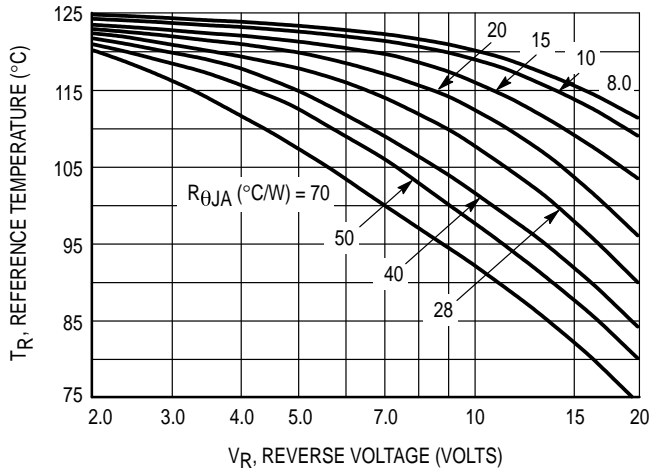

Figure 1. Maximum Reference Temperature
Figures 1, 2, and 3 permit easier use of equation (1) by taking reverse power dissipation and thermal runaway into consideration. The figures solve for a reference temperature as determined by equation (2).
Inspection of equations (2) and (3) reveals that T_R is the ambient temperature at which thermal runaway occurs or where T_J = 125°C, when forward power is zero. The transition from one boundary condition to the other is evident on the curves of Figures 1, 2, and 3 as a difference in the rate of change of the slope in the vicinity of 115°C.
The data of Figures 1, 2, and 3 is based upon dc conditions. For use in common rectifier circuits, Table 1 indicates suggested factors for an equivalent dc voltage to use for conservative design, that is: